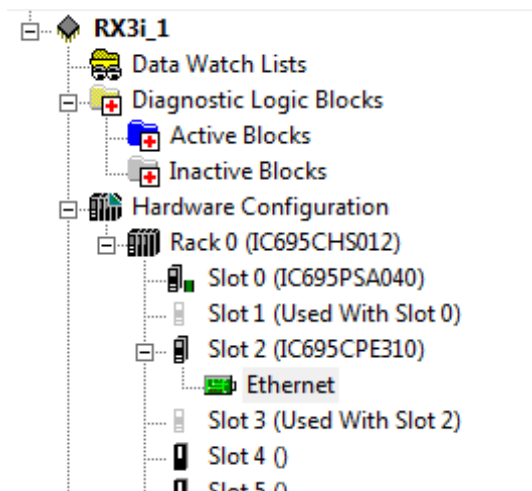

Figure 16: Expand RX3i CPU Node to Configure Embedded Ethernet interface
2. Expand the CPU slot (Slot 2). The Embedded Ethernet interface is displayed as “Ethernet” (Figure 16).